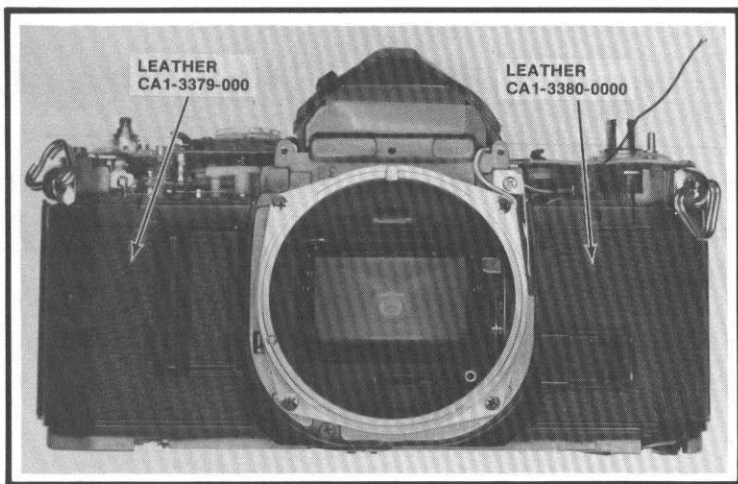

Figure 35
1. Peel off the right and left front sections of leatherette, Fig. 35.